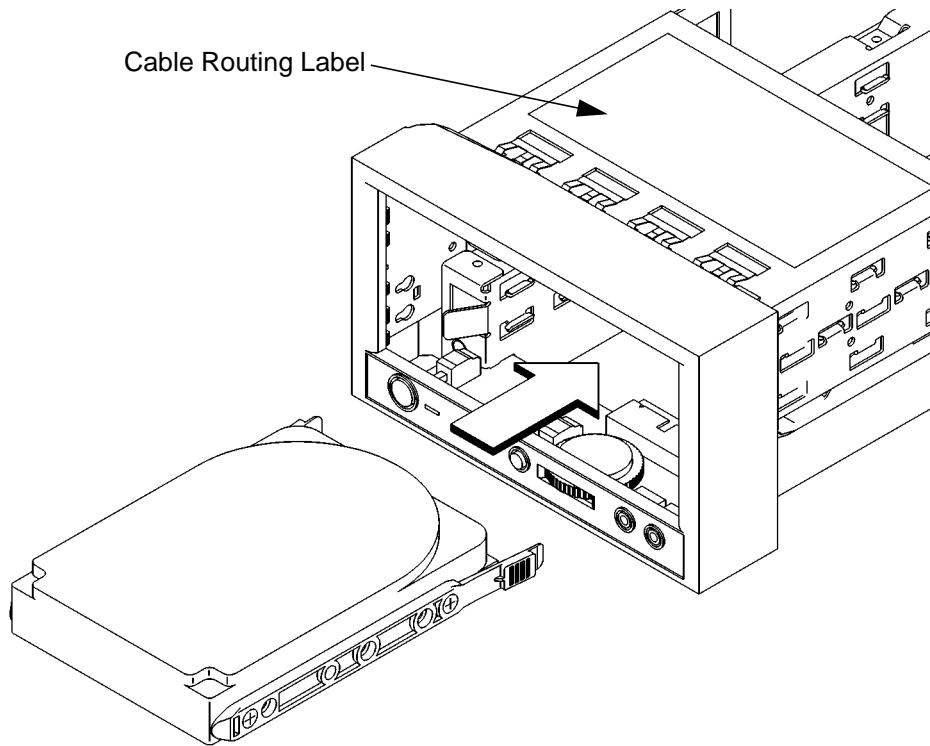

**Figure 29**
- 1 Remove the disk filler panel from the bottom location of the bezel by using a coin or other flat, blunt, object to pry it from the front, as shown in Figure 29.